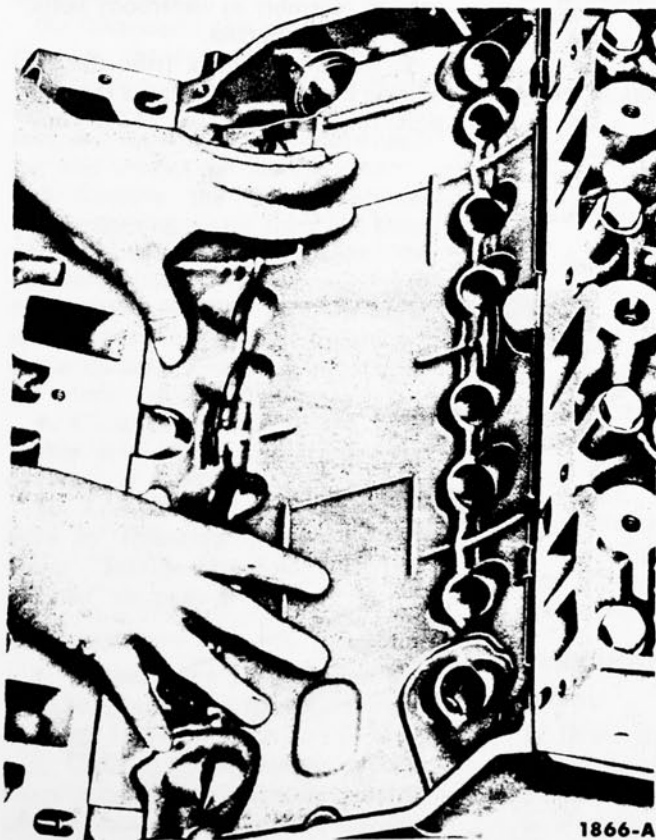

FIG. 53—Baffle Plate Installation
9. Position the baffle plate in the valve push rod chamber. Press it into place with the hands (Fig. 53).